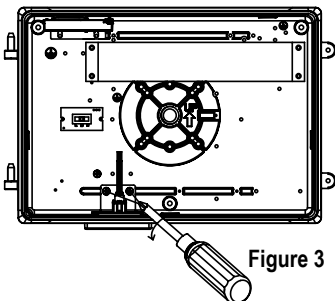

Figure 3
1. Loosen the two (2) screws with a Phillips-head screwdriver and take out the sensor mounting bracket. (see Fig. 3)